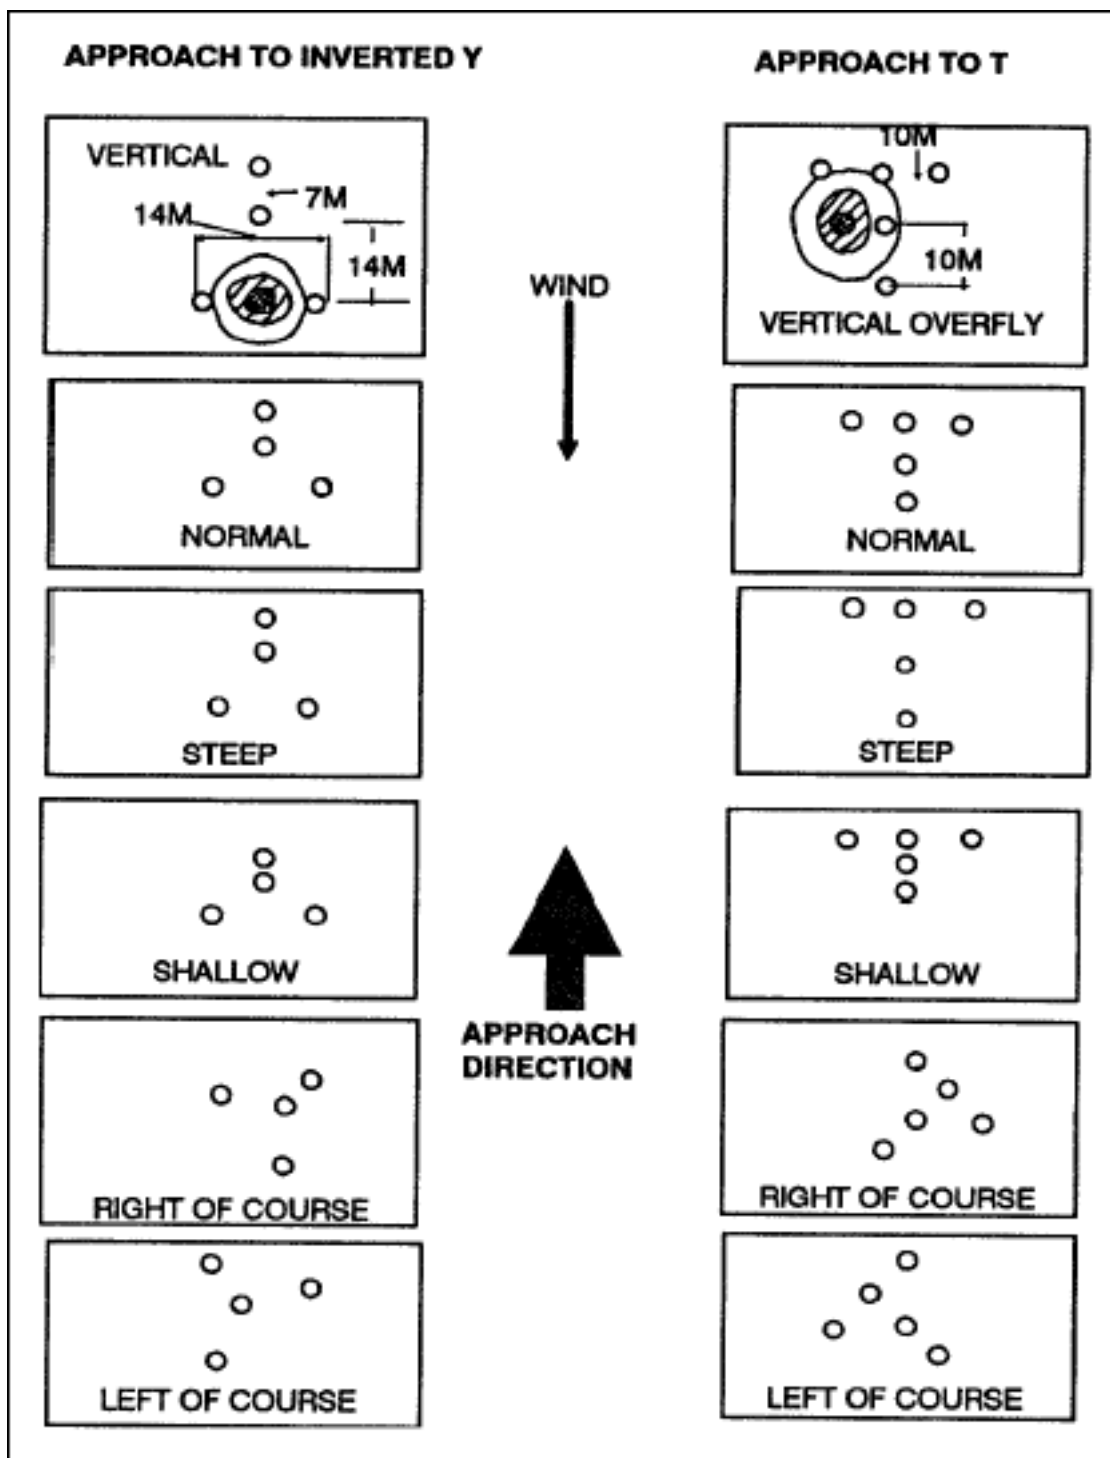

Figure 4-11. Lighted night landing symbols as the pilot would see them from different approach angles.
a. At night, pathfinders can use lights of different colors (except red, which marks obstacles) to designate different helicopter sites or to separate flights within a larger formation. A lighted "T" or inverted "Y" indicates both the landing point for the lead helicopter of each flight and the direction of approach (Figure 4-11). Other lights mark touchdown points for the other helicopters in the flight. Each helicopter should land with its right landing gear or its right skid 5 meters left of the light.